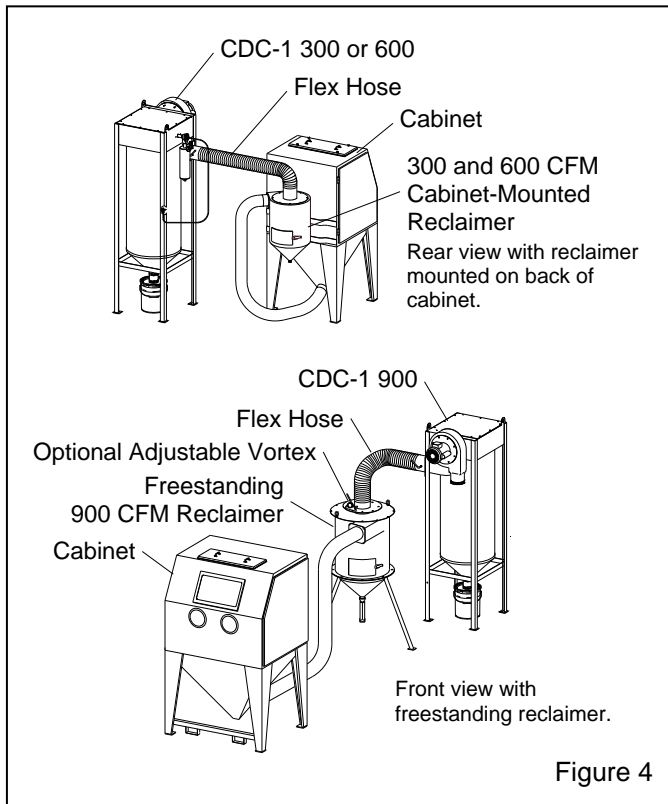
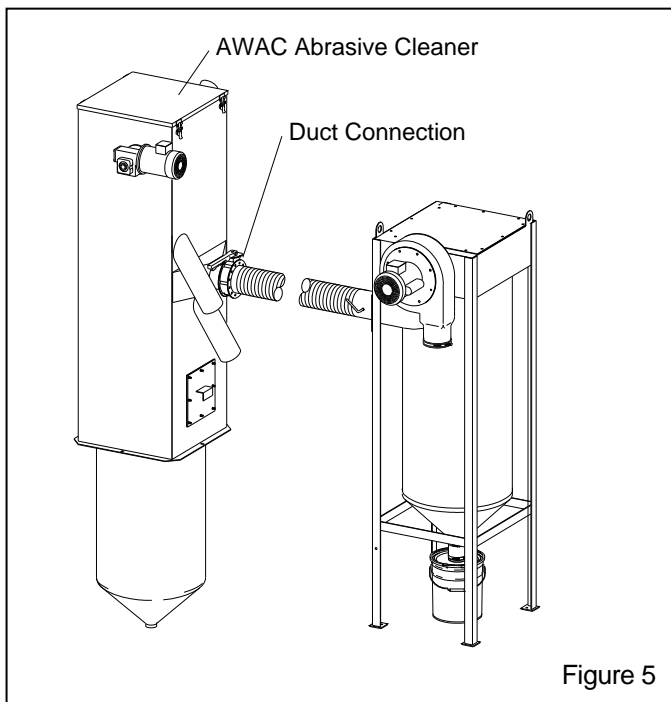

Figure 4
Figure 5
Figure 1 shows callouts of the dust collector components. Figure 4 shows typical arrangements when collector is used to ventilate a blast cabinet, and Figure 5 shows the connection to an abrasive cleaner.
**2.1.2** Refer to Figure 4 and place the collector so the inlet flex hose has as few bends as possible. Determine the best location and position all units before making the final assembly. Doing so will make sure there are no placement issues during maintenance.
**2.4.1** Figure 4 shows typical arrangements and callouts when the dust collector is connected to a blast cabinet reclaimer. **NOTE: The collector may also connect to a 900 cfm reclaimer mounted on a blast machine used with a small pneumatic recovery system, as shown in the M-Section® Sweep-In Recovery Owner’s Manual, stock no. 23647.**
**2.4.2** Figure 5 is a typical arrangement with a CDC-1 600 connected to an AWAC abrasive cleaner used with mechanical recovery systems. The dust collector provides air movement for the AWAC air wash to remove fines (abrasive worn too fine for blasting purposes) from recyclable abrasive.
**2.6.1** Refer to Figure 4 when connecting flex hose to a reclaimer or Figure 5 and when connecting to an AWAC abrasive cleaner, and connect the hose between the reclaimer or AWAC outlet and dust collector inlet pipe.